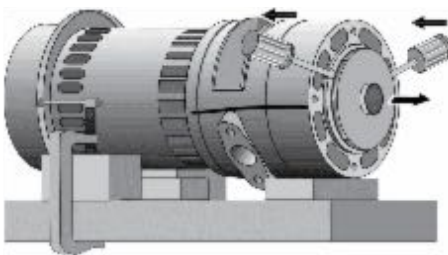

Figure 31
9. The impellers are keyed to the shaft and do not unscrew. Inset two screw drivers on opposite sides under the exposed impeller and pry the impeller off (Figure 31) to remove it.